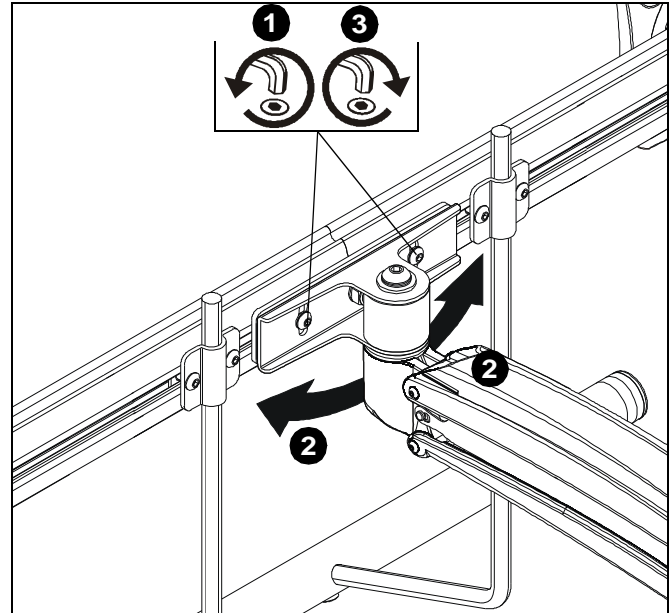

Figure 19
1. Loosen roll adjustment screws on back of array bracket. (See Figure 19)
2. Adjust roll of array bar as desired. (See Figure 19)
3. Tighten roll adjustment screws on back of array bracket. (See Figure 19)